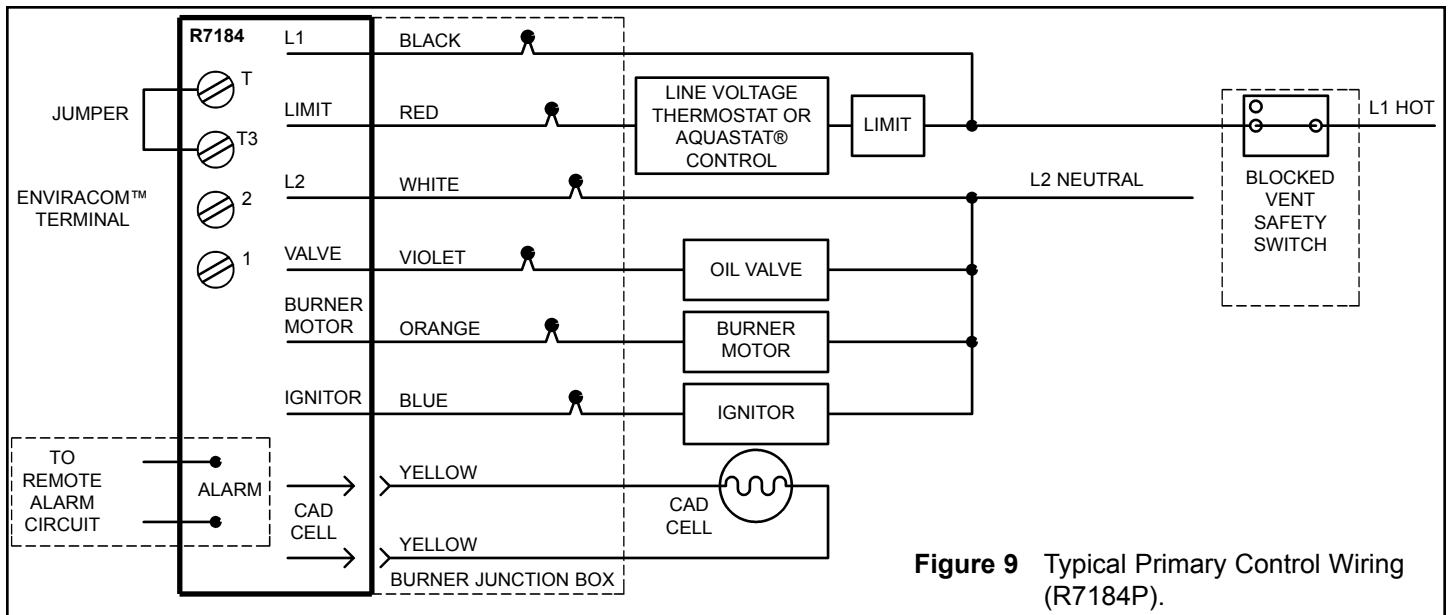

Figure 9 Typical Primary Control Wiring (R7184P).
3. Wire the safety switch in series with L1 of the electrical supply (see Figures 9, 10 & 11). Install and route wiring in an accordance with "Canadian Electrical Code Part 1 (C22.1)" and any applicable local codes.
5. Wire the control to the burner as shown in the wiring diagrams (Figures 9, 10 & 11).